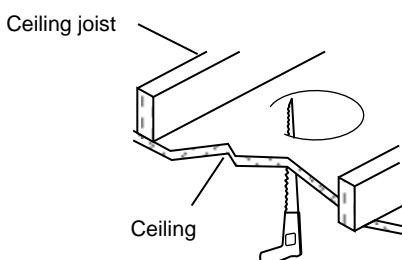

Fig. 1
2. Using a keyhole saw make a 6 1/4 " hole in the ceiling surface. (Fig. 1) (**Note:** Be sure not to make the hole any larger than specified by the template. An oversized hole may not allow for proper installation.)